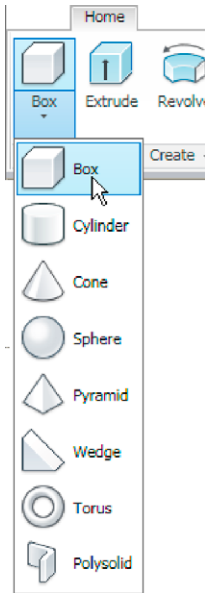

Fig. 12.23 Selecting **Box** from the **Home/Create** panel
4. Click the **Box** tool icon in the **Home/Create** panel (Fig. 12.23). The command line shows: